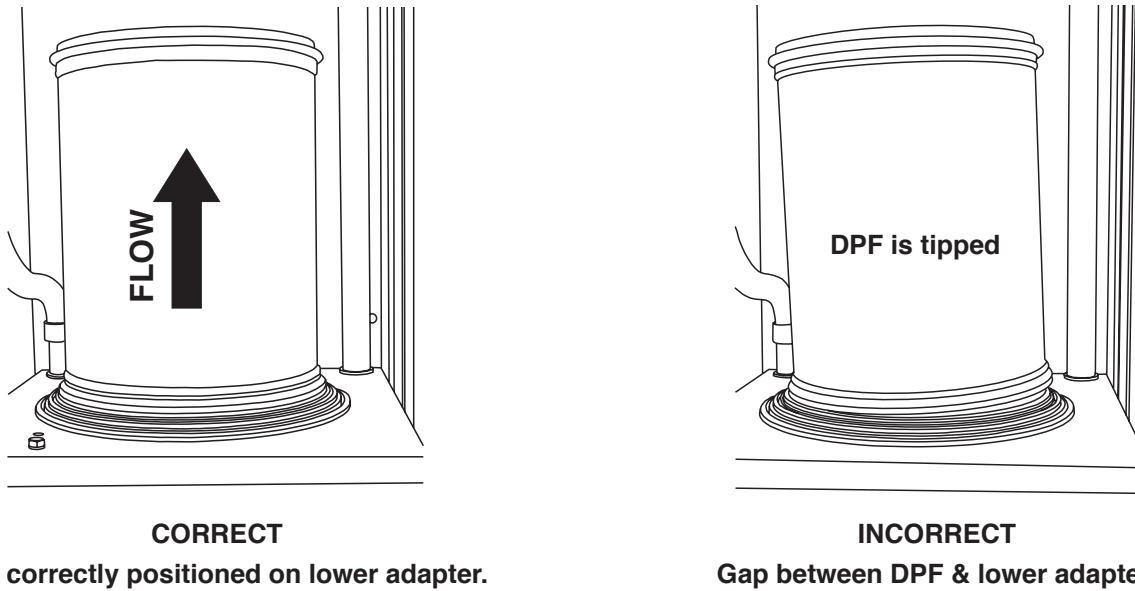

Figure 4
5. Place the DPF on the lower adapter with the arrow on the side of the DPF pointing UP (indicating the direction of the exhaust flow). The DPF must be flat on the lower adapter with no visible gaps between the DPF and the adapter. See Figure 4.